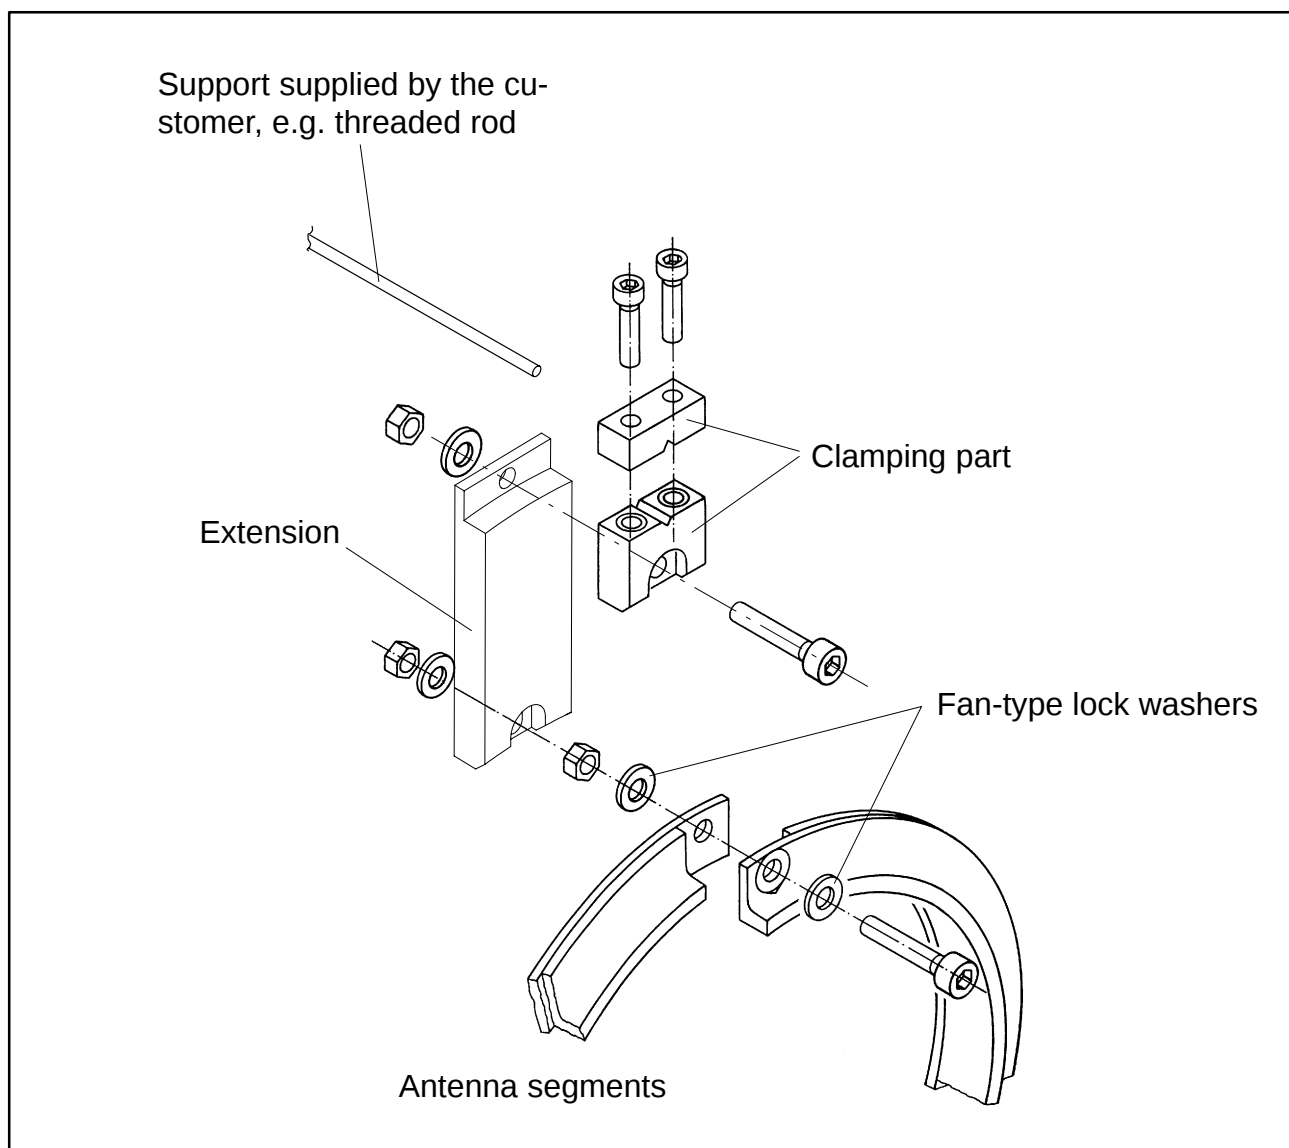

Fig. 4.7: Mounting of clamping part
2. Screw-fasten the clamping part to the extension as shown in Fig. 4.7.
3. Attach the clamping part and the extension to the antenna segment with the enclosed screwed joint in accordance with Fig. 4.7. It is essential to use the new fan-type locking washers.